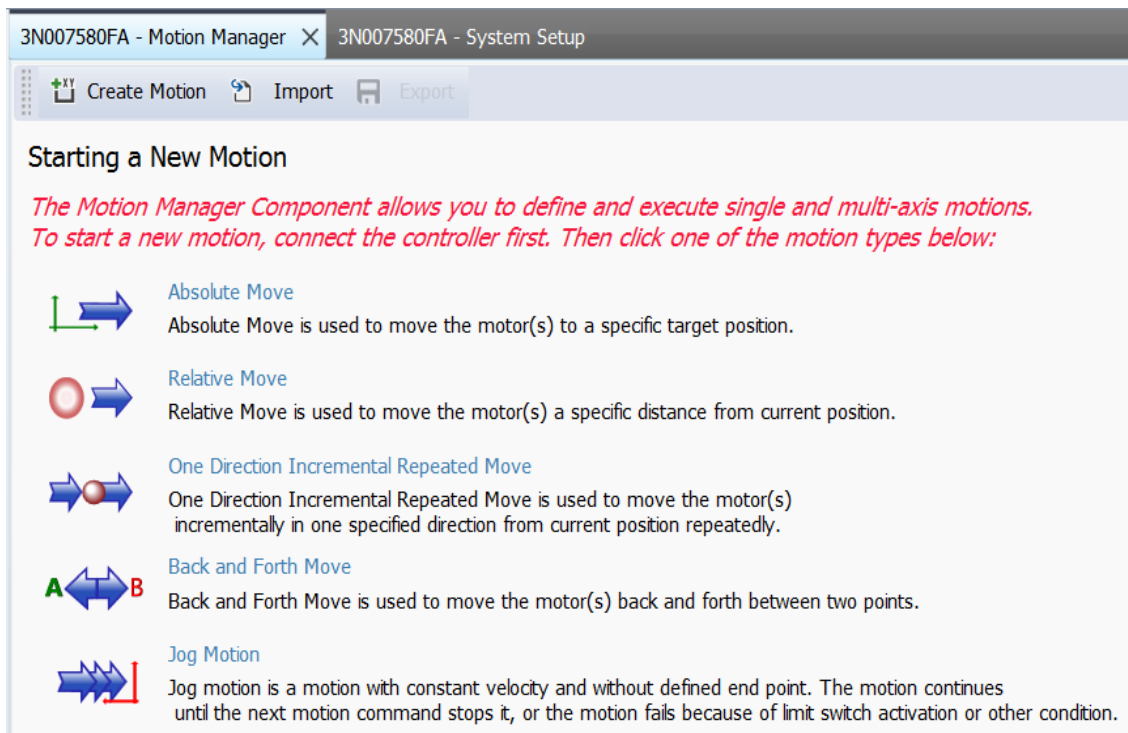

Figure 7-1. Motion Manager Initial Screen
1. In the **Workspace**, right click on the **Controller**, then navigate to **Add Component > Diagnostics and Monitoring > Motion Manager**. This brings up the **Motion Manager** window (see Figure 7-1).
2. To start, select the type of move you want from the list (see Figure 7-1).